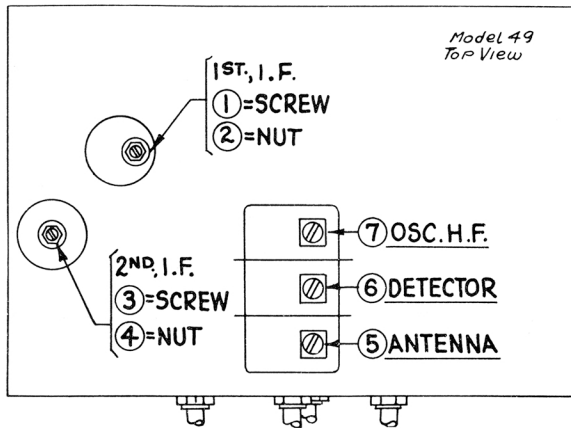

Fig. 16
These condensers Nos. (5), (6) and (7), are located on top of the tuning condenser gang (See Fig. 16) adjustment made by means of the fibre wrench. Set the signal generator at 1500
Set the wave switch of the Signal Generator at 260 K.C., and the dial of the receiver at 55. Turn on the set (volume full on), and the Signal Generator. Now adjust the 1st I.F. Primary and Secondary condensers (Nos. (1) and (2) in Fig. 16) and the 2d I.F. primary and secondary condensers ((3) and (4)) to give maximum reading on the output meter. The I.F. primary condenser is adjusted by turning the screw on top of the I.F. transformer and the secondary is adjusted by turning the nut. The I.F. transformers are in the smaller metal "cans". The screw and nut